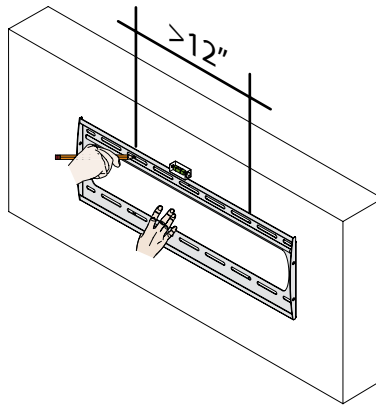

Figure 14. Placing the Wall Plate
3. Use a pencil (not included) and mark two upper and two lower mounting locations where you will be drilling holes for the concrete wedge anchors. Each horizontal location cannot be closer than 12" apart (Figure 14).